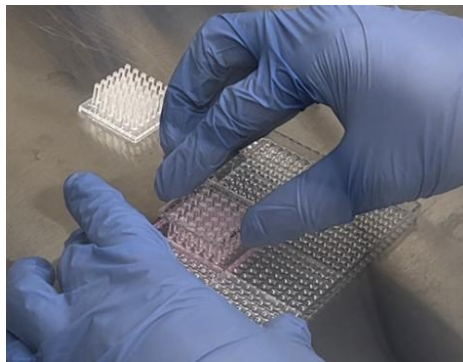

Figure 5. Stamping of the 36PillarPlate on the LoadingPlate to load cells suspended in Matrigel on pillars.
14. Stamp the 36PillarPlate on the LoadingPlate and press gently to load the cell-Matrigel mixture evenly on the entire pillar plate (**Fig. 5**). Repeat this cell loading step for other pillar plates as needed.